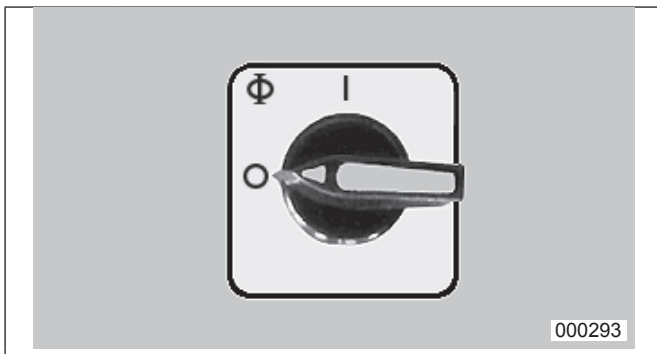
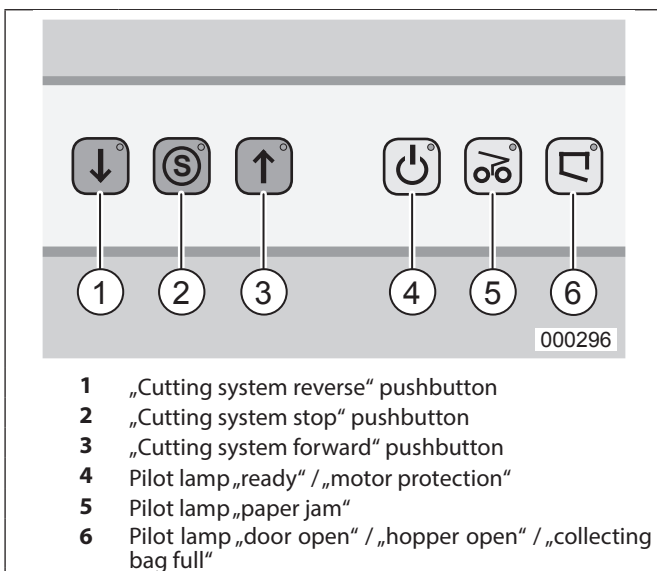

fig.2 Operating element (Emergency-stop)
fig.3 Operating elements foil
1. Move the main switch (fig. 2) to position „1“.
2. Press the „forward“ button (fig.3/3). The cutting system starts running.
Continuously lights when the mains switch (fig.2) is operated.
Flashes when the motor is overloaded. The machine cannot be started during the cooling down phase of the motor. Additional the pilot lamp of the control display (fig.3/6) lights up.
To start, switch on the unit by operating the mains switch (fig.2). The pilot lamp marked „ready for operation“ (fig.3/4), as well as the red stop-button „S“ (fig.3/2) will light to indicate that the machine is ready for operation.
2. Press the pushbutton switch „forward“ (fig. 3/3).
3. To switch the machine off press the red stop-button (fig.3/2).